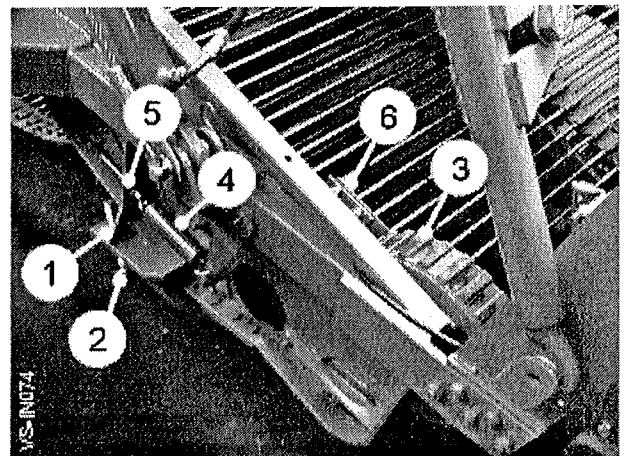

Fig 9
To adjust the angle of the shares loosen the adjuster locknuts (item 1, fig 9) on both sides of the machine, and re-position adjustment (item 2, fig 9). Ensure both sides are adjusted evenly by measuring from the tip of the outer shares to the disc support bridge.
The haulm intake rollers (item 3, fig 9) are spring loaded onto the digger web bars. The outer rollers are fitted with tension springs (item 4, fig 9) which are mounted to the web sides by the threaded adjusters (item 5, fig 9) which allow the required amount of tension to be applied. The centre rollers (if fitted) are mounted on a spring-loaded arm and are tensioned with a coil spring and threaded adjuster. The scrapers (item 6, fig 9) fitted to each roller should be set as near to the roller as possible without fouling it.